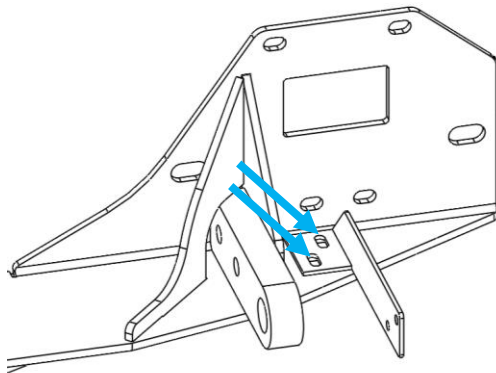

Figure 23: Light Bar Strap Installation Location
32. Install Light Bar Straps onto the winch tray using the 1/4"-20 x 1" bolts with corresponding washer and nuts. Reference Figure 23.